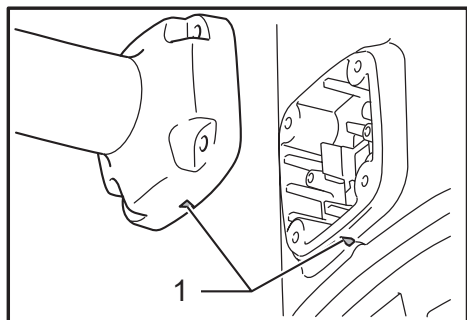

Fig.4
- Fig.4: 1. Triangle alignment mark